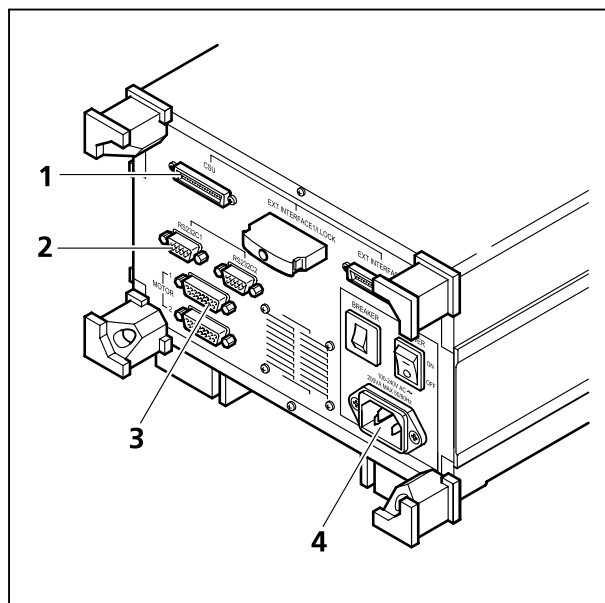

Fig. 3-8 CSU-X1 control box connection points
- Connect terminal **RS232C1** (Fig. 3-8/2) of the CSU-X1 control box to the computer.
- Plug the control cable of the CSU-X1 spinning disc unit into terminal **CSU** (Fig. 3-8/1) of the CSU-X1 control box.
- Connect the control cable of the filter wheel (if installed) to terminal **Motor 1** (Fig. 3-8/3).
- Connect the line power cable to the CSU-X1 control box (Fig. 3-8/4) and a suitable line power socket.